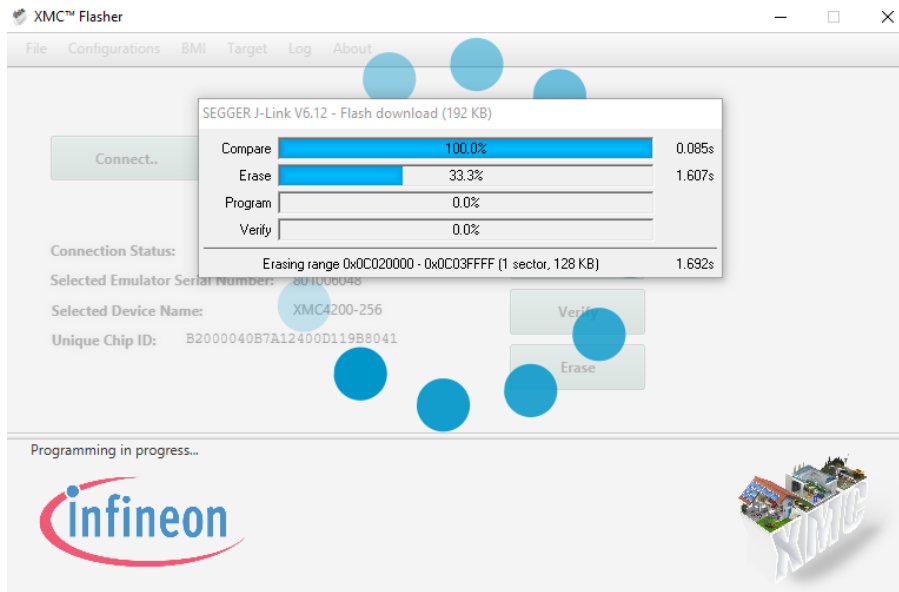

Figure 10. Sensor Flashing in Process
**Step 8.** Press Program to start the flashing process. A pop-up of rolling balls along with a status box will appear while the flashing in process (*Figure 10*). Typically, it only takes a few seconds to complete the flashing process.